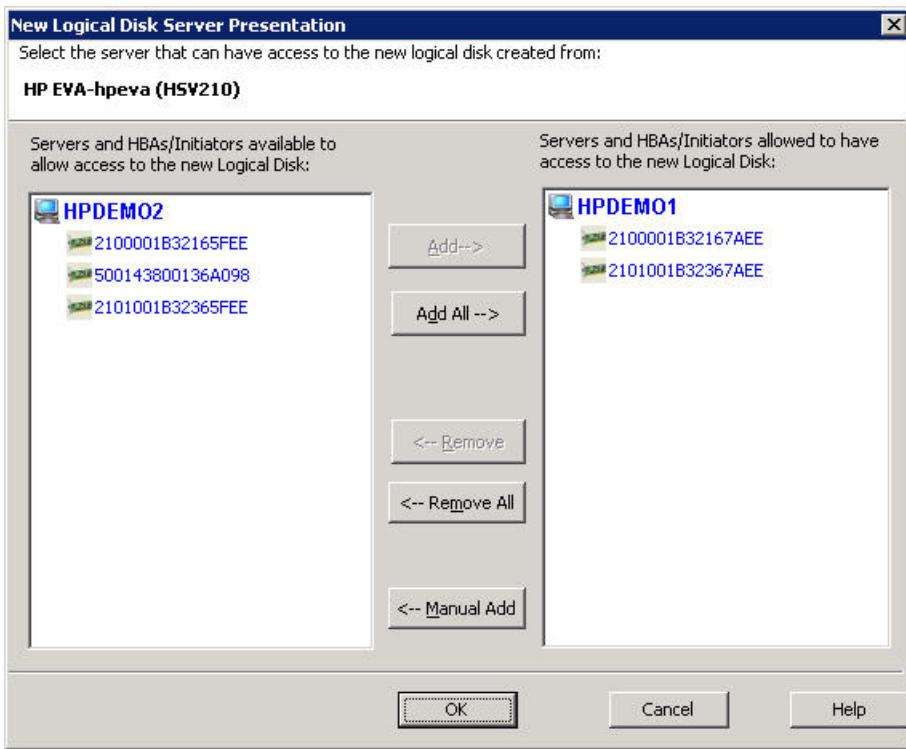

Figure 53 New Logical Disk Server Presentation dialog box (EVA storage)
The New Logical Disk Server Presentation dialog box (Figure 53) opens.
a. On the New Logical Disk Server Presentation dialog box (Figure 53), click **Manual Add**.